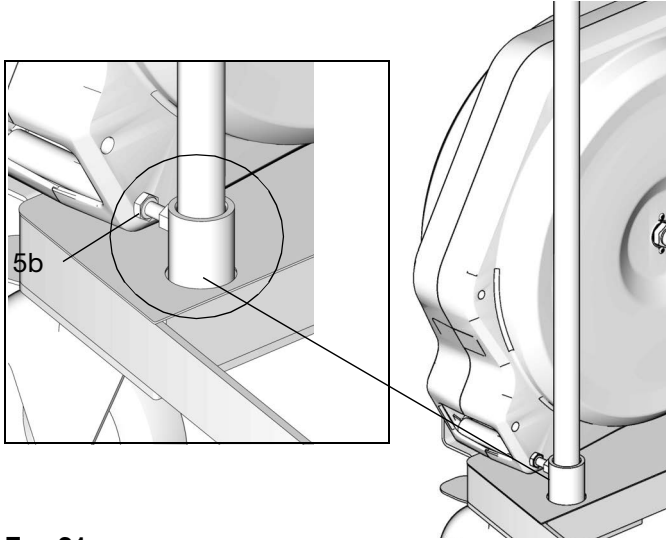

FIG. 31
- Secure the handle sub-assembly (5a) to the cart (5) using supplied bolts (5b), using a screwdriver to tighten bolts securely (FIG. 31).